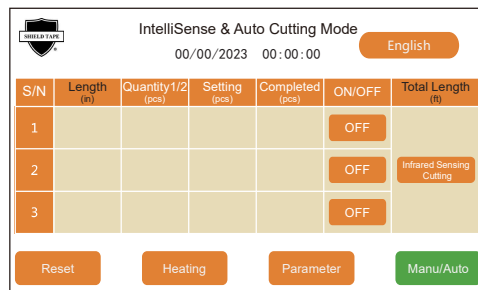
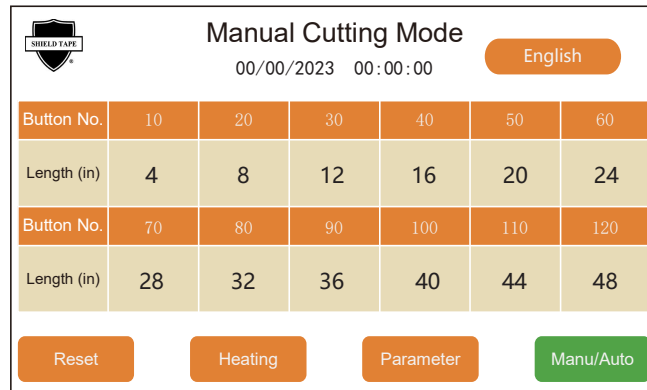
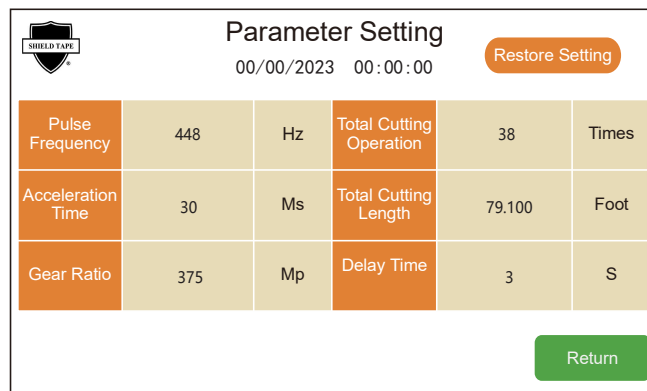
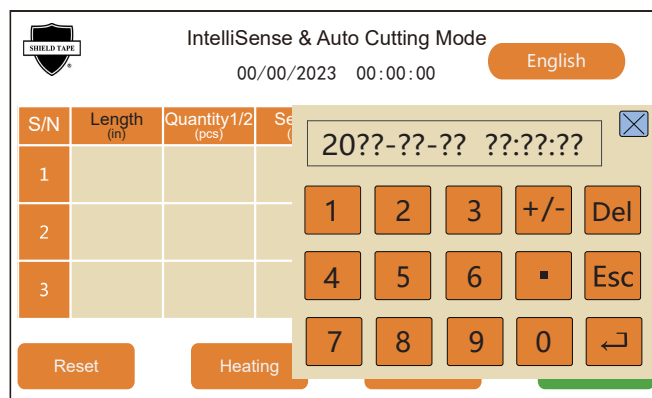

Figure 4: IntelliSense & Auto Cutting Mode
Figure 5: Manual Cutting Mode
Figure 6: Parameter Setting Interface
Figure 7: Time setting interface
When you turn on the power switch of the device, the CNC display screen will automatically enter the startup interface as shown in Figure 3. After the interface flashes for about 3 seconds, the device will automatically enter the "IntelliSense & Auto Cutting Mode" interface as shown in Figure 4.
3. Parameter: Press this function key to pop up the password input interface and enter the password (8888) to enter the "Parameter Setting" interface as shown in Figure 6.
When you enter interface 2 (Figure 4), interface 3 (Figure 5) and interface 4 (Figure 6), you will find a long string of numbers "2023/00/00 00:00:00" in "Date + Time" format below the name of the interface. Long press this area for 3~5 seconds to enter the date and time setting interface (Figure 7).